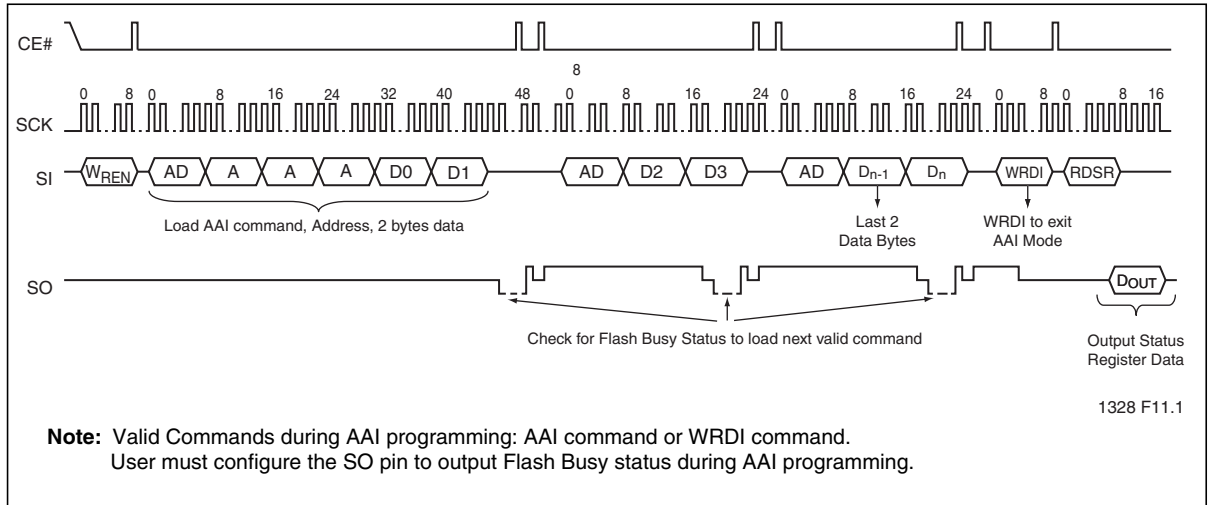

**Figure 9:** Enable SO as Hardware RY/BY# during AAI Programming
The Hardware End-of-Write detection method eliminates the overhead of polling the Busy bit in the Software Status Register during an AAI Word program operation. The 8-bit command, 70H, configures the Serial Output (SO) pin to indicate Flash Busy status during AAI Word programming, as shown in Figure 9. The 8-bit command, 70H, must be executed prior to executing an AAI Word-Program instruction. Once an internal programming operation begins, asserting CE# will immediately drive the status of the internal flash status on the SO pin. A '0' indicates the device is busy and a '1' indicates the device is ready for the next instruction. De-asserting CE# will return the SO pin to tri-state.